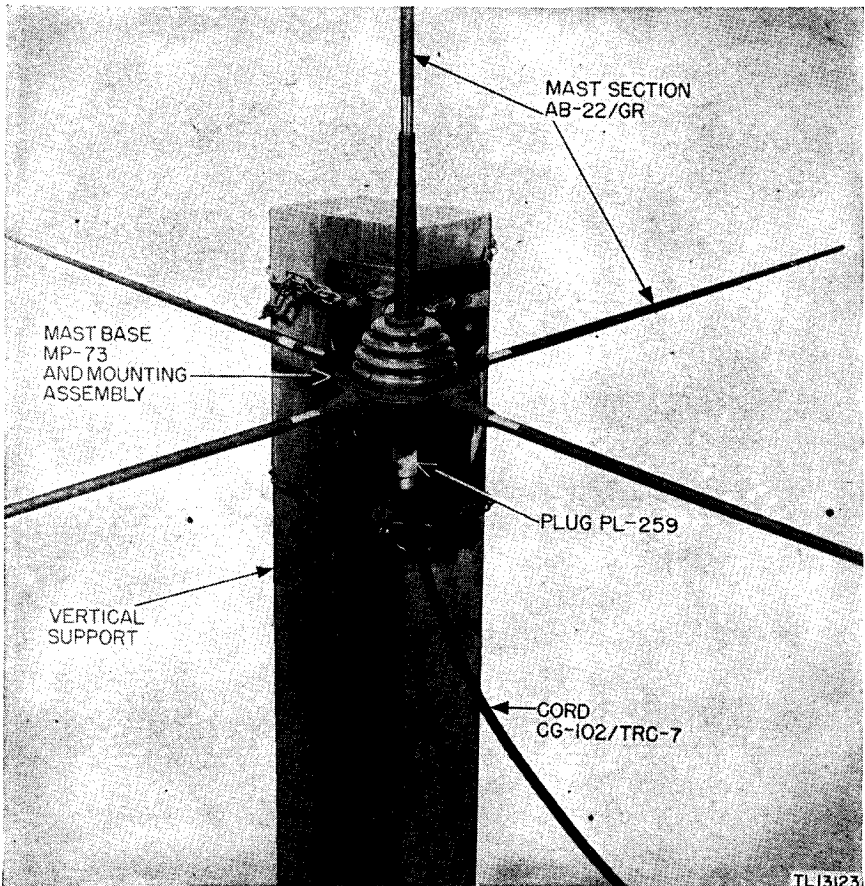

Figure 34. Antenna Equipment RC-291-( ), showing Mast Base MP-73 and mounting assembly, installed on support.
**a. LOCATION OF ANTENNA.** Select a tree at the edge of a wooded area, or else erect a pole in a clear area. The tree or pole should be 2-or more inches in diameter and should be able to support easily the weight of the equipment to be mounted on it. If a tree is used, it should be topped before installing the antenna (fig. 34).
(5) *Assembling mast sections.* Assemble one set of mast sections by screwing Mast Section AB-24/GR into Mast Section AB-23/GR, and this into Mast Section AB-22/GR. Assemble four more sets in similar fashion. Haul the five sets of mast sections to the top of the support and screw them into the five female inserts that project from the sides and top of the mast base (fig. 34).